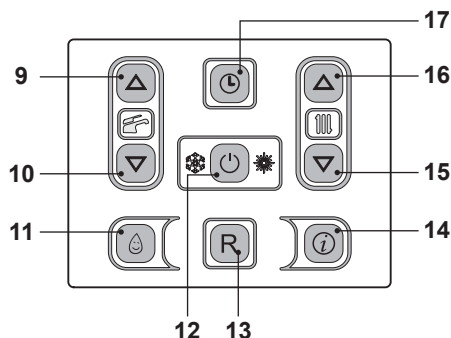

Fig. 7.8
- Press the 12 key for 2 seconds until the symbol appear on the display Fig. 7.8.
- Switch off the boiler by pressing the 12 (Fig. 7.8) key for 2 seconds until the - - - - symbol appears on the LCD display (Fig. 7.7).
Press the reset key on the boiler control panel 13 (Fig. 7.8) to reset its functioning.